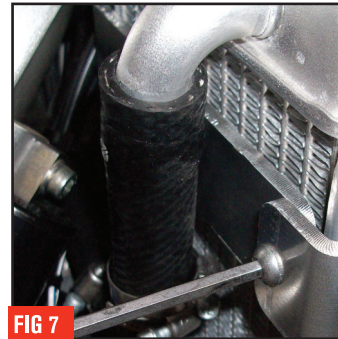
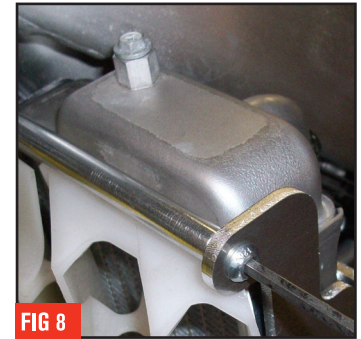

FIG 7
FIG 8
**12** Using 2 of the supplied 6x8mm button head bolts mount the small brace half marked "L" on the tabs of the left side big brace half. **(Figure 7)** Using 2 of the supplied 6x16mm bolts, attach the small brace half to the upper and lower support rods. **(Figure 8)**